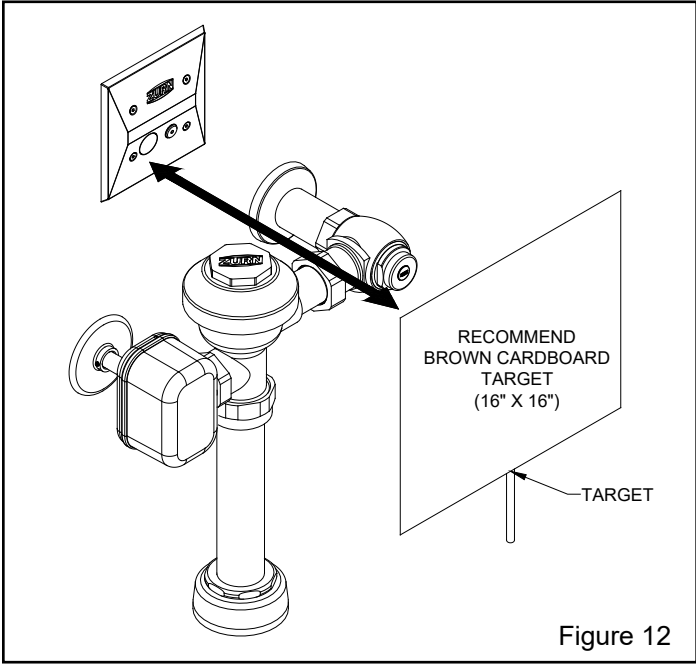

Figure 12
- 1. Obtain a target. SEE FIGURE 12.